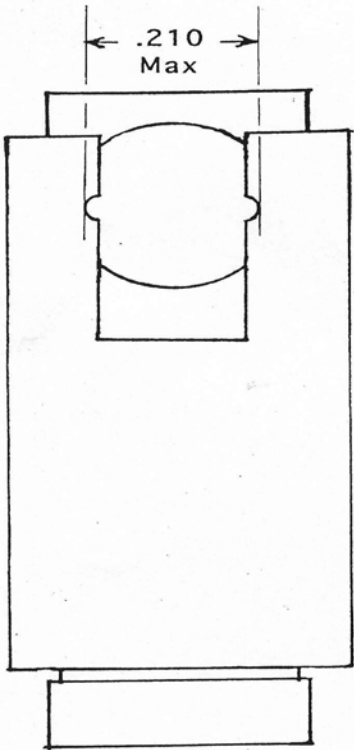
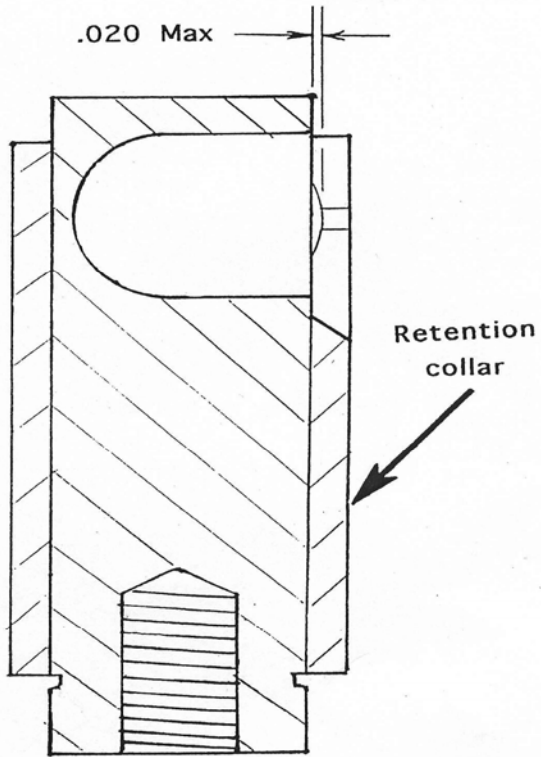

Fig. 2
Fig. 3
2. Disconnect the ball swivel fitting from the throttle shaft by removing the snap ring and sliding back the spring loaded retention collar (see figure 2 and 3).
3. Examine the slot machined in the retention collar for wear. Figure 2 illustrates the wear caused by the throttle shaft and shows the maximum permissible wear caused by the throttle shaft. Figure 3 shows maximum permissible wear in the retention collar caused by the ball. If the swivel fitting is worn beyond either of the above specified limits, it must be replaced with a new fitting before further flight. This swivel fitting is P/N 14-003 and the spring clip is P/N 33-005; both are available from Ellison Fluid Systems, Inc.